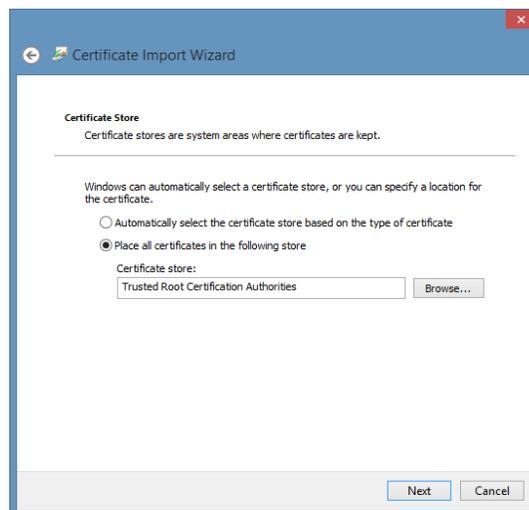

Figure 91: Place all certificates...
7. Select the option for **Place all certificates in the following store**, then click **Browse** (Figure 91).